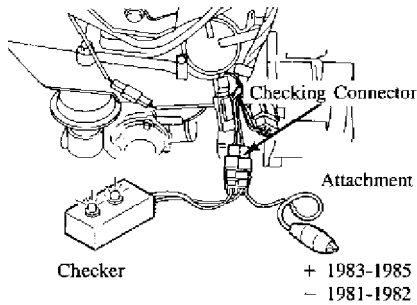

Fig. 5: Throttle Sensor Checker Attachments
3. Connect the attachment for the throttle sensor checker to the checking connector as shown in Fig. 5. The color of the checking connector is: